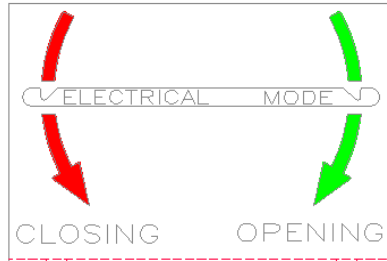

Fig 26
- c) Operating direction for opening and closing, as well as the electrical mode position they are indicated in the operating indicator (fig 26).
Before locking the operating lever, the electrical control of the PM6, either local or remote control, must be set to , electrical mode(figure 26)